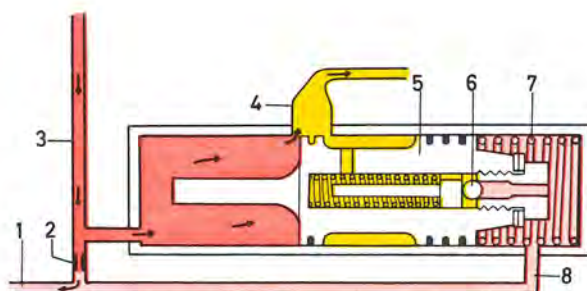

Fig. 6-43. Control valve, normal position
When the pump starts functioning, the valve (5, Fig. 6-43) maintains the valve pressed to the left of the spring (7). The oil supplied by the pump passes through the delivery channel (3) via the check valve
(2) out into the delivery line (1) and from there to the steering housing. The space to the right of the control valve is linked-up with the delivery line (1) by means of the link channel (8) and has, therefore, the same pressure.
The check valve's (2) function is to ensure that the pressure on the left-hand side of the control valve piston is higher than that in the line and also to the right of the piston. When the spring pressure is overcome, the piston is, therefore, displaced to the right. And when the speed is sufficiently high in relation to the counterpressure, the piston has been displaced so much that the surplus oil can flow back to the inlet side of the pump, see Fig. 6-43. Since the pump should deliver a quantity smaller than the maximum capacity, this valve adjustment can be called normal.